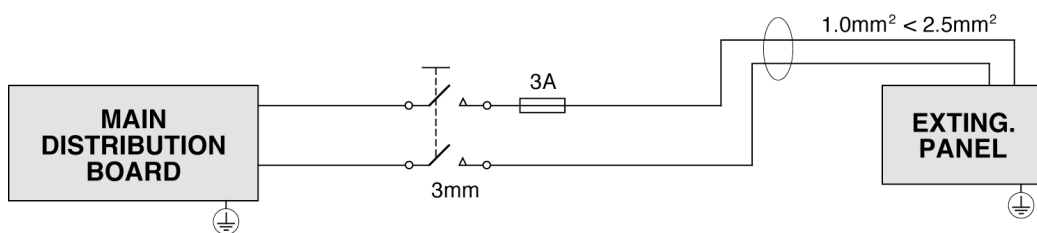

Figure 3 : Mains Wiring
**HINT:** As an alternative to a switched fused spur, a double-pole isolating switch with 3 mm air gaps on the contacts & switching L & N only, may be used in the mains feed from the Main Distribution Board to the PSU, providing it meets the appropriate wiring regulations (see Figure 3 below).